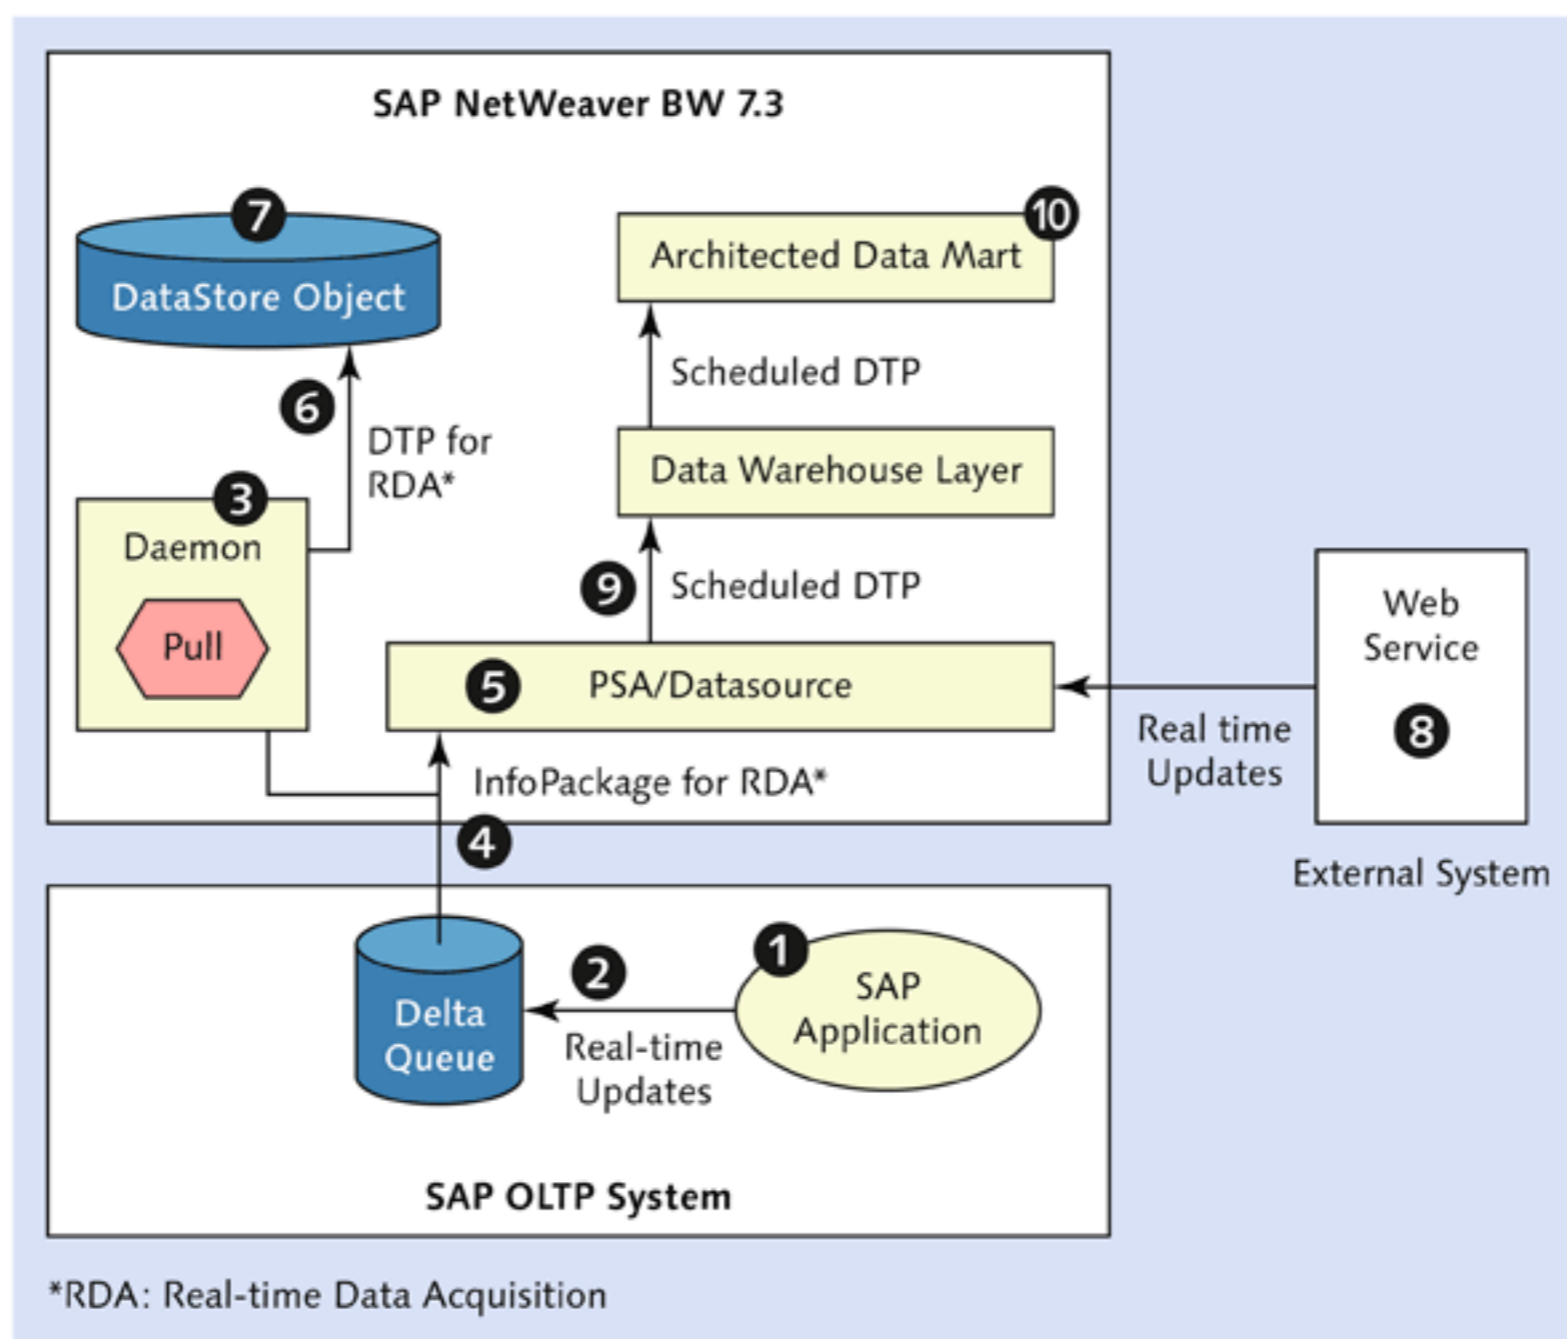

Figure 6.60 RDA Architecture
As shown in Figure 6.60, there are two ways to get data in real time: via the SAP source system, and via external systems.
When data is accessed from the SAP source system, the SAP application (❶ of Figure 6.60) updates the data in the delta queue (❷) in real time. The daemon (❸) in SAP NetWeaver BW starts the InfoPackage for RDA (❹) at a defined interval,